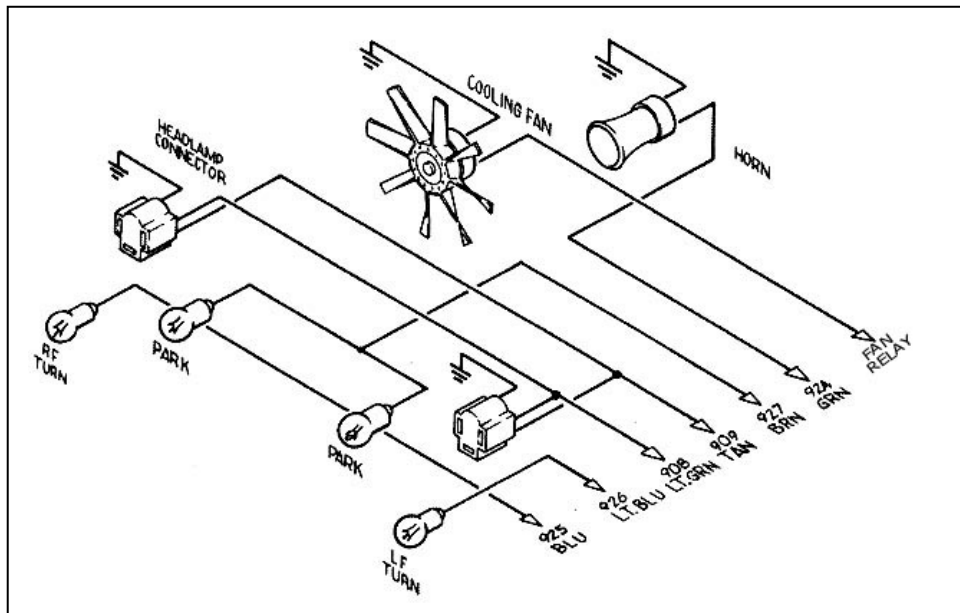

Figure 10-4A Headlight Section Wiring
10.5 HEADLIGHT SECTION A. See Figure 10-4A
10.6 HEADLIGHT SECTION B Wiring. See Figure 10-4A.